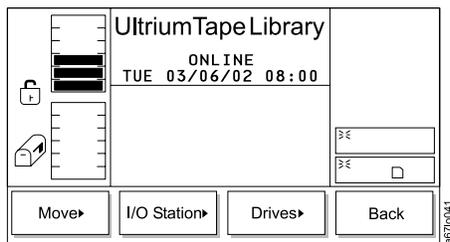

Figure 8-6. Command Menu
1. From the Main Menu's initial screen, press the button below the **Command** softkey. The Command Menu displays (see Figure 8-6).